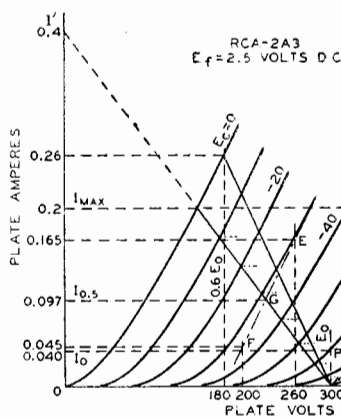
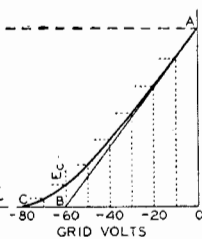

Fig. 24
Fig. 25
In class AB1 push-pull amplifier service using triodes, the operating conditions may be determined graphically by means of the plate family if E0, the desired operating plate voltage, is given. In this service, the dynamic load line does not pass through the operating point P as in the case of the single-tube amplifier, but through the point D in Fig. 24. Its position is not affected by the operating grid bias provided the
In general, for any load line through point D, Fig. 24, the plate-to-plate load
**Example:** Fig. 24 illustrates the application of this method to a pair of 2A3's operated at  $E_0 = 300$  volts. Each tube has a plate-dissipation rating of 15 watts. The method is to erect a vertical line at  $0.6E_0$ , or at 180 volts, which intersects the  $E_c = 0$  curve at the point  $I_{Dmax} = 0.26$  ampere. Using the simplified formulas, we obtain
The operating bias and the zero-signal plate current may now be found by use of a curve which is derived from the plate family and the load line. Fig. 25 is a curve of instantaneous values of plate current and dc grid-bias voltages taken from Fig. 24. Values of grid bias are read from each of the grid-bias curves of Fig. 24 along the load line and are transferred to Fig. 25 to produce the curved line from A to C. A tangent to this curve, starting at A, is drawn to intersect the grid-voltage abscissa. The point of intersection, B, is the operating grid bias for fixed-bias operation. In the example, the bias is -60 volts. Refer back to the plate family at the operating conditions of plate volts = 300 and grid bias = -60 volts; the zero-signal plate current per tube is seen to be 0.04 ampere.
As in the case of the push-pull class A amplifier, the second-harmonic distortion in a class AB1 amplifier using triodes is very small and is largely canceled by virtue of the push-pull connection. Third-harmonic distortion, however, which may be larger than permissible, can be found by means of composite characteristic curves. A complete family of curves can be plotted, but for the present purpose only the one corresponding to a grid bias of one-half the peak grid-voltage swing is needed. In the example, the peak grid voltage per tube is 60 volts, and the half value is 30 volts. The composite curve, since it is nearly a straight line, can be constructed with only two points (see Fig. 24). These two points are obtained from deviations above and below the operating grid and plate voltages.
long-short dash line in Fig. 24. At the intersection of the composite curve and the load line, G, the instantaneous composite plate current at the point of one-half the peak signal swing is determined. This current value, designated  $I_{0.5}$  and the peak plate current,  $I_{max}$ , are used in the following formula to find peak value of the third-harmonic component of the plate current.